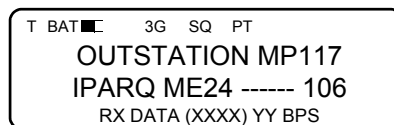

Figure 3-58. Receiving the Phone Number
- After the 3G link has been established, the outstation will transfer the phone number. During the transfer of the phone number being called by the outstation, the basestation's front panel will display the normal 3G link screen with the transfer information at the bottom of the KDU. See Figure 3-58.